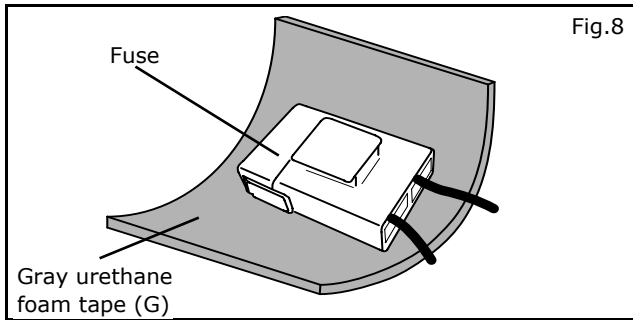

Fig.8
1) Wrap harness fuse (D) with Gray urethane foam tape (G) as shown in Fig.8.